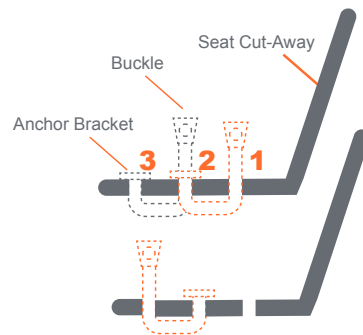

Fig. 34-1
5. To shorten the buckle webbing length, thread the anchor bracket through the slot forward of the use position. Confirm the Anchor Bracket is completely through the forward slot. Pull on webbing from the bottom side of the safety seat to confirm the Anchor Bracket is secured in place (Fig. 34-1).